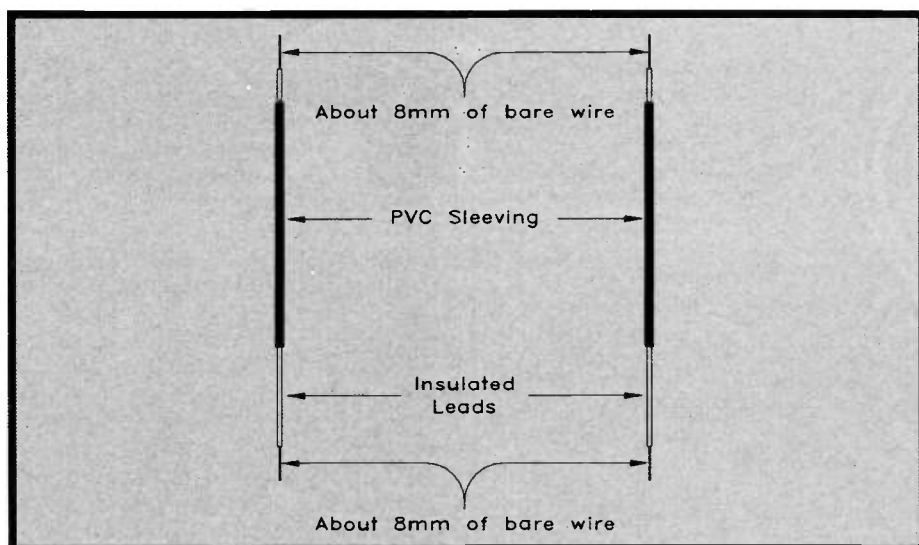

Figure 6. Preparing the probes.
g) The probes are made up from two pieces of insulated multi-strand wire (coloured red and black) and two pieces of hollow insulated sleeving (also coloured red and black). The probes should be made up as shown in Figure 6, use wire strippers to remove the insulation where shown. Again, the bare ends of the leads should be twisted together to prevent the wires from splaying apart. Slide the red sleeving over the red wire and the black sleeve over the black wire. Connect the two wires to the screws on the board marked 'Probes' – the red wire should go to the screw nearest the emitter of TR2 (shown